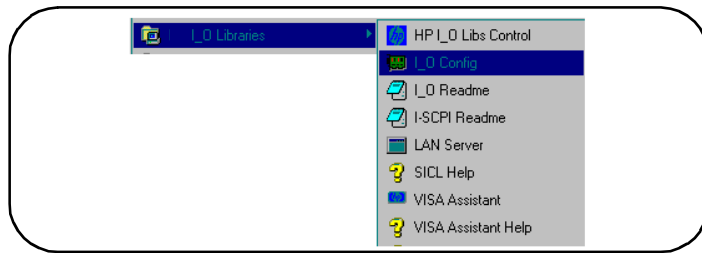
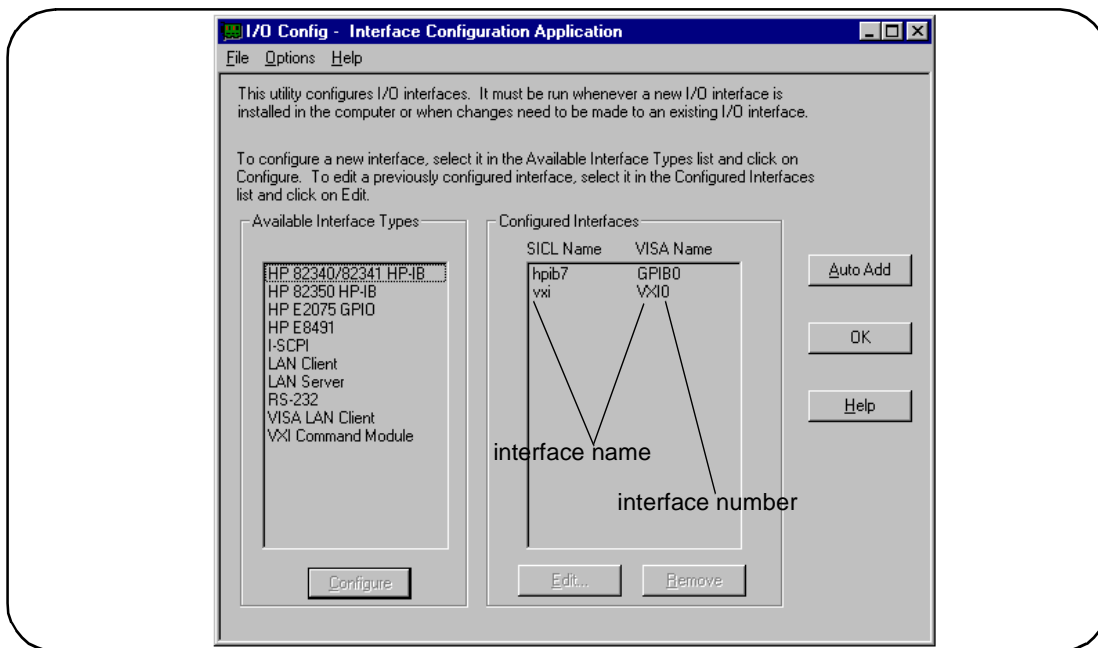
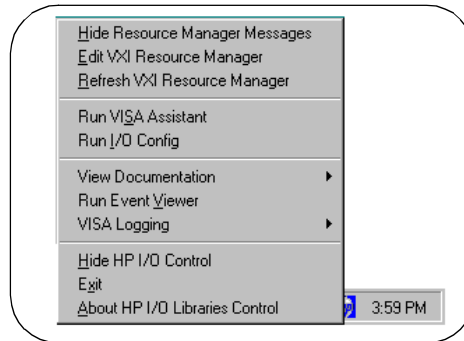

Figure 2-10. The Agilent I/O Libraries Program Group.
Figure 2-11. The Agilent I/O Libraries I/O Config Utility.
Figure 2-13. Editing Your Configuration on Windows 95 Platforms.
1. Connect the IEEE 1394 interface cable between the host adapter (PC) and one of the IEEE 1394 ports on the E8491B front panel.
3. From the Agilent I/O Libraries program group created when the libraries were installed (Start >> Programs >> Agilent I_O Libraries), click on ‘I_O Config’ (Figure 2-10).
An alternative is to click on the Agilent icon in the lower right-hand corner of your monitor which is placed there following the installation of the I/O Libraries and configuring the E8491B. Clicking on the Agilent icon brings up a pop-up menu like that shown in Figure 2-13. Click on “Run I/O Config”. Either method described in this step brings up a configuration window similar to Figure 2-11.
- Figure 2-11 returns with the SICL Name and VISA Name inserted. Click OK to close the utility and complete the configuration.
When it is necessary to edit your configuration, click ‘I_O Config’ in the Agilent I/O Libraries program group (Figure 2-10). To edit the E8491B, click (highlight) the configured interface (“vxi VXI0”) in the utility (Figure 2-11). This activates the ‘Edit’ and ‘Remove’ buttons at the bottom of the window.
After installing the Agilent I/O Libraries and configuring the E8491B on the Windows 95 platform, an *Agilent* icon is placed in the bottom right corner of your PC monitor (Figure 2-13).
Runs the I/O Config utility and brings up the “I/O Config - Interface Configuration Application” window shown in figure 2-11.
2. Click on Start >> Programs >> I_O Config to bring up the I/O Config window (Figure 2-11).
- activated from the 'I/O Control' icon (see Figure 2-13)